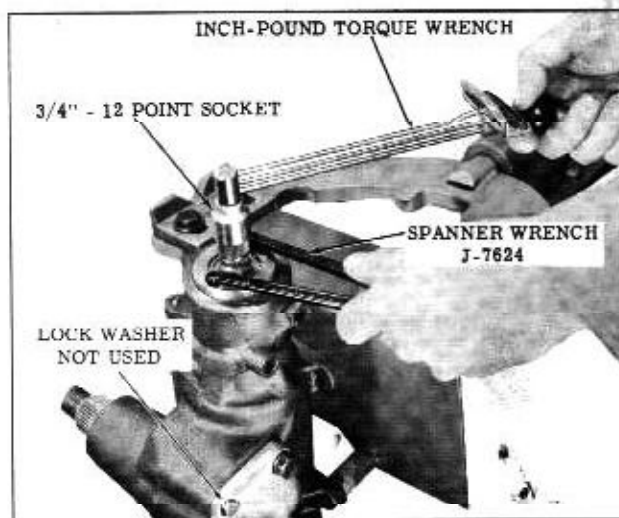

Fig. 4-33 Adjusting Thrust Bearing Preload
- c. Install the 4 side cover bolts and 3 lock washers and tighten 25 to 30 ft. lbs. Refer to Fig. 4-33 for washer location.
- c. Install an inch-pound torque wrench with a 3/4" 12 point socket on the lower shaft splines. (Fig. 4-33)